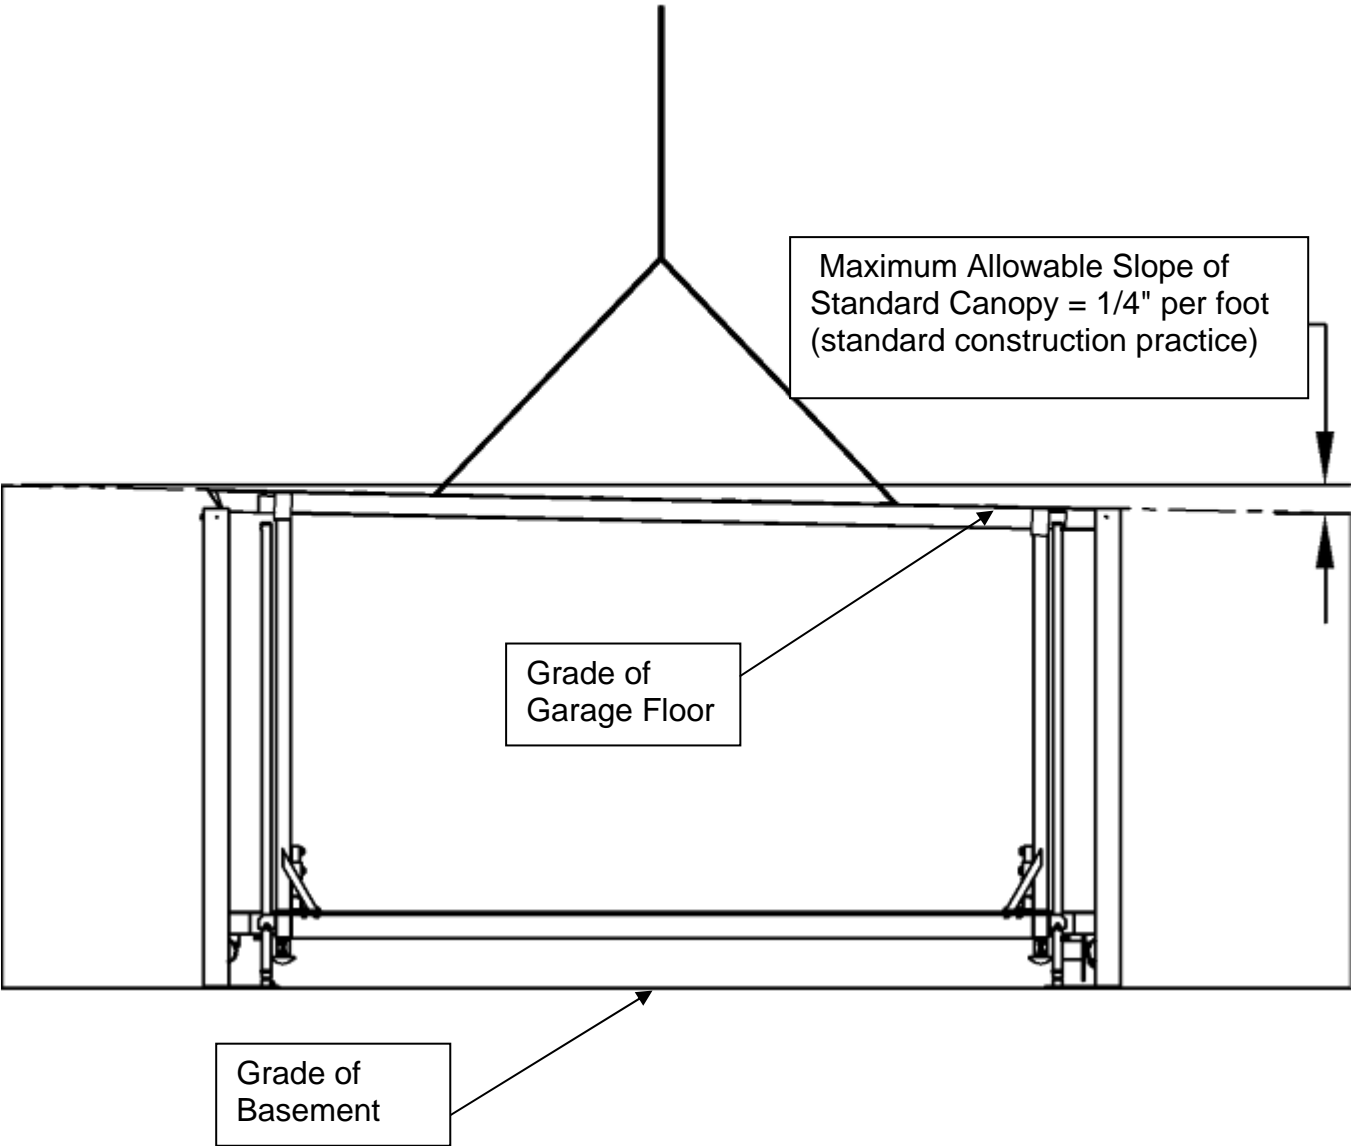

Figure 33 Adjusting Canopy to Match Grade of Garage Floor (Side View)
1. Using nylon straps / hooks and lifting eye provisions in the deck surface, raise the upper/canopy over the four (4) canopy posts, sliding the square collars located beneath the deck over and onto the four posts. Make sure that the deck orientation (location of access hatch – if applicable) matches the GA Drawing and that all four posts are engaged into the platform collars.
3. With the carriage leveled and in the fully lowered position, use the overhead hoist or crane to lift and adjust the slope of the top canopy to be flush with, and match the grade of, the surrounding garage/parking floor (reference **Figure 33**). Weld per General Arrangement drawing once complete.